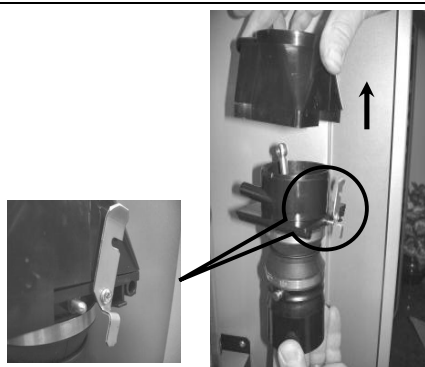

Figure 13h
- **Figure 13h** - Lift off the Steam Extractor Hood
- Fit the Steam Extractor Hood (Fig 13h) back onto the brewer chamber, and refit the unit to the machine.